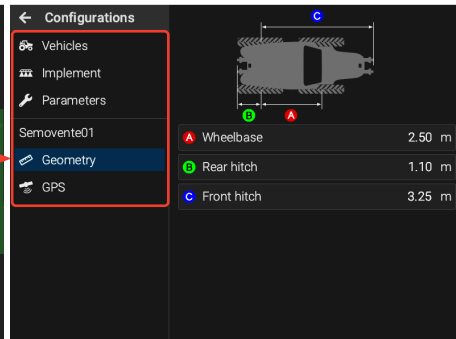

Fig. 26
- Select each item to set the requested data (example: **Semovente01** > **Geometry** in Fig. 26).